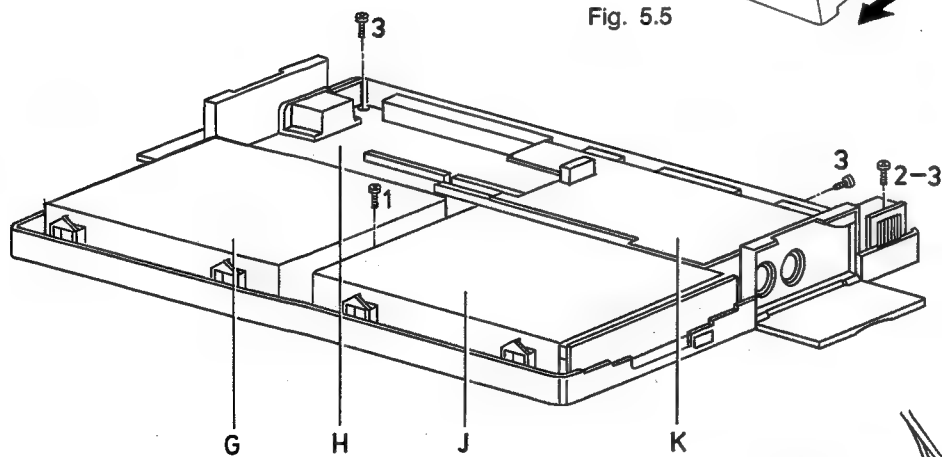

Fig. 5.6
- Remove one screw (2) near the power switch. See Fig. 5-6.